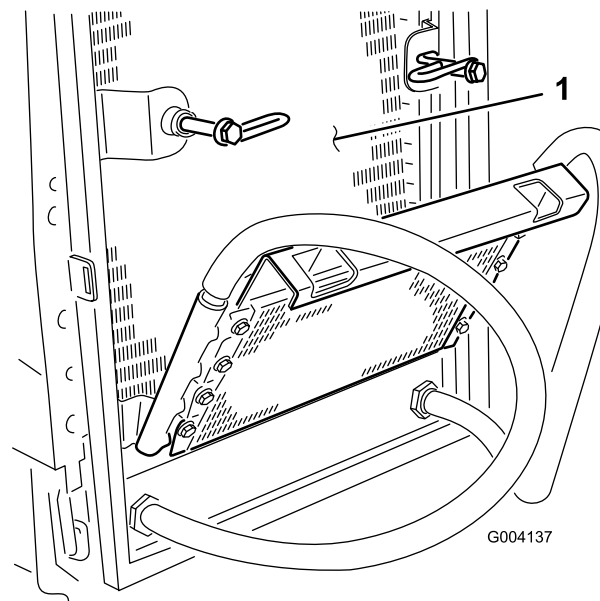

Figure 59
6. Thoroughly clean both sides of the oil cooler and the radiator (Figure 59) with compressed air.